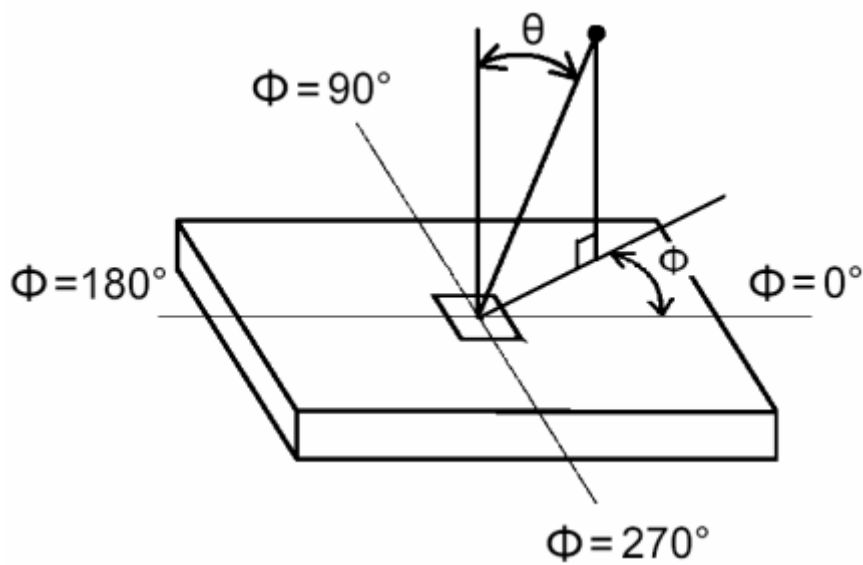

FIG.4 Measurement of viewing angle
5. Viewing angle is the angle at which the contrast ratio is greater than 10. The angles are determined for the horizontal or x axis and the vertical or y axis with respect to the z axis which is normal to the LCD surface. For more information see FIG4.